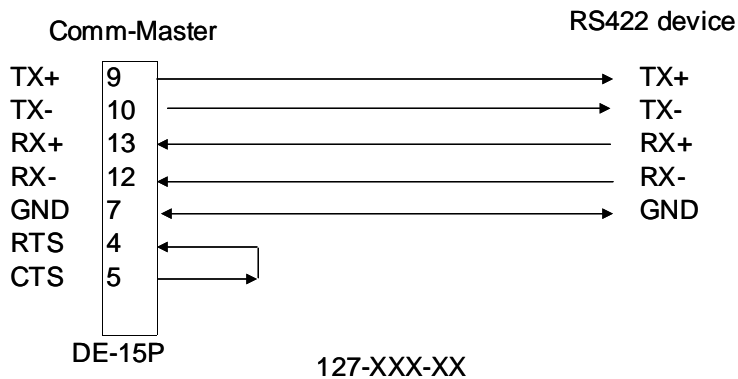
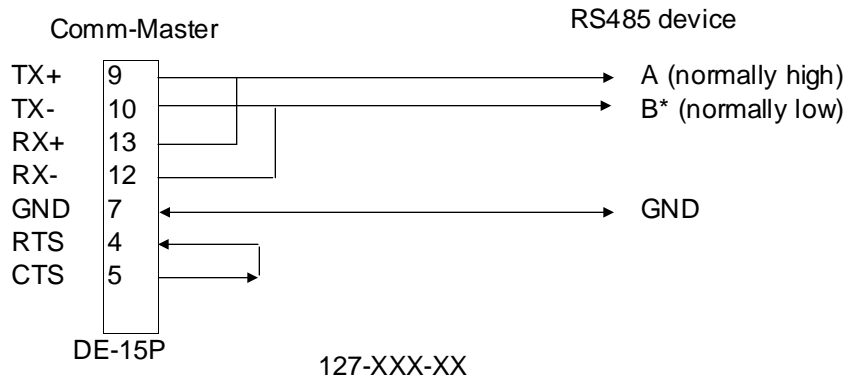

Figure 12 Comm-Master RS422 Connections
Figure 13 Comm-Master RS485 Connections
The Comm-Master has seven (7) LED indicators located near the top of the module and visible through a slot in the module housing. These indicators provide status information for each of the serial interface ports. The LED's are numbered DS1 through DS7 starting from the top. Figure 12 defines the function for each of the LED indicators. Comm-Masters boards rev. D and above have an additional LED (DS8) located above DS1 which is used as a "heartbeat" LED and use the bottom LED (DS7) as an error indicator rather than as a Slave Processor Active light.
All three ports of the Comm-Master can be operated in either RS232, RS422 or RS485 configurations. The mode of operation is determined by a combination of jumper selections and cable connections. Jumper J23 is used for port P1; Jumper J21 for port P2 and Jumper J24 for port P3. If the jumper is positioned from 2-3 the associated port will operate using RS232 drivers and receivers. Transmit and receive data lines should be connected to pins 2 and 3 of the connector. If the jumper is installed from 1-2 then the port can be operated in either RS422 or RS485 configurations depending on the cable connections used. For RS422 operation the transmit and receive signal lines will be connected to pins 9,10, 12 and 13 as shown in figure 12/ For RS485 operation the transmit and receive data wires are simply connected in parallel as shown in Figure 13.